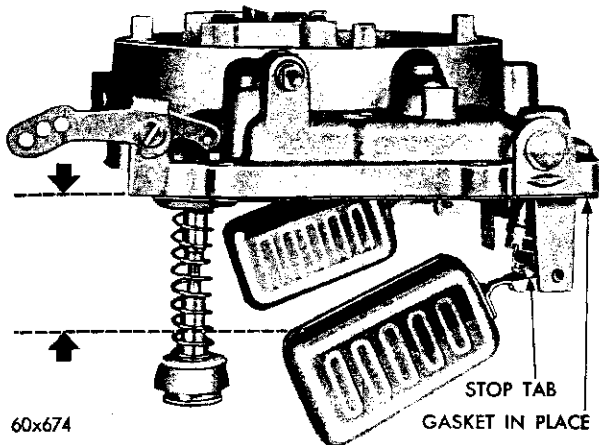

Fig. 74—Measuring the Float Drop
(1) Holding the air horn in an upright position, measure the distance from the top of floats (outer end) and the air horn gasket, as shown in Figure 74. This measurement should be 1/2 inch. If an adjustment is necessary, bend the stop tabs on the float levers until correct drop setting has been obtained. Bend the tab toward the needle seat to decrease the drop, or away from the float to increase the drop.